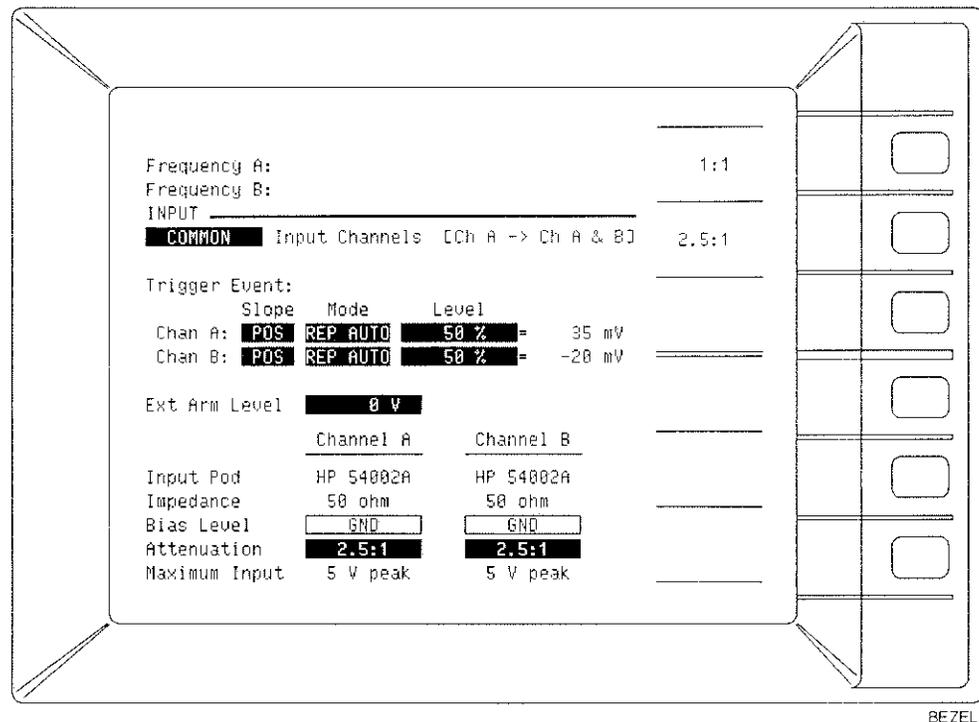

Figure 2-11. X2.5 Attenuation INPUT Screen Display
- D. Press the **2.5:1** softkey. (The HP 5371A front-panel CRT display should appear as in *Figure 2-11*.)